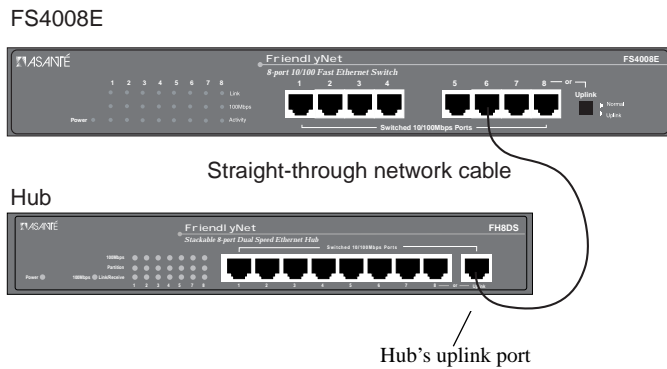

Figure 2-13 Connecting a hub to the Switch
- ❑ Connect the hub's uplink port to any of the Switch's ports. See Figure 2-13